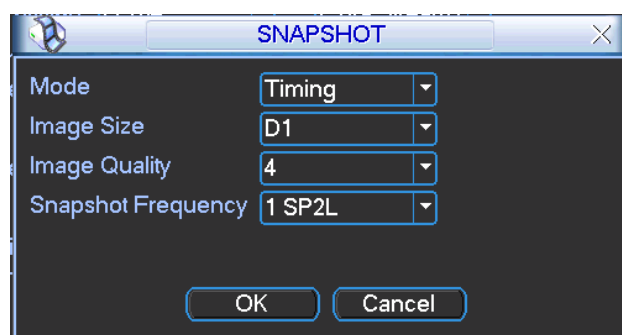

Figure 5-8
- Snapshot: Click snapshot button, you can see an interface is shown as in Figure 5-8.(This function applies to some series only)